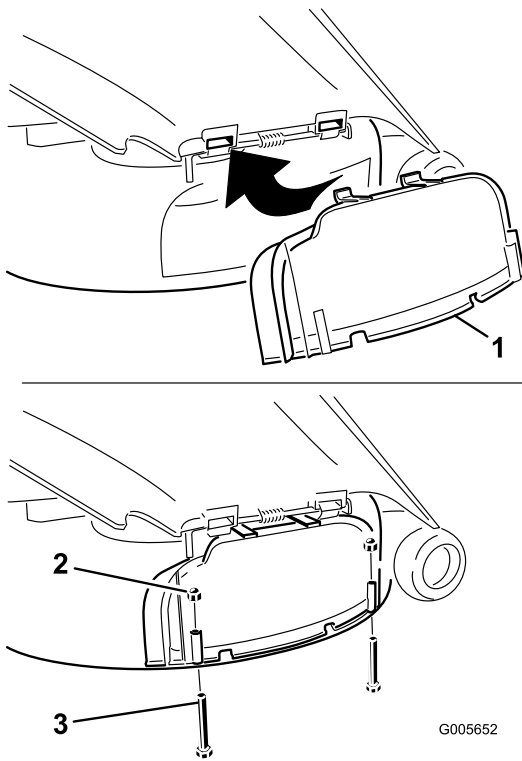

Figure 20
3. Lift the grass deflector and slide the tabs on top of the discharge cover under the grass deflector retaining rod. Rotate the discharge cover down over the opening, and onto the lower lip of the mower (Figure 20).
4. Secure the discharge cover to the lower lip of the mower with two bolts (1/4 x 2-1/2 inches) and two cap nuts (1/4 inch) as shown in Figure 20.